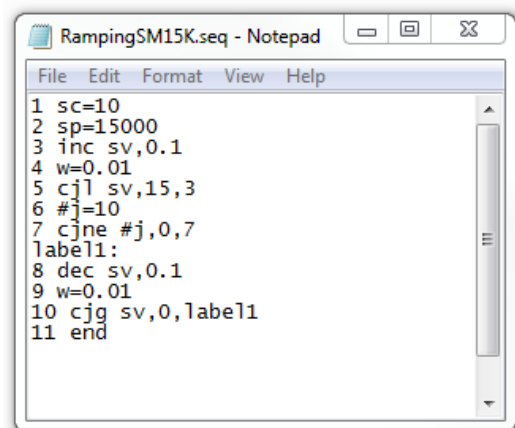
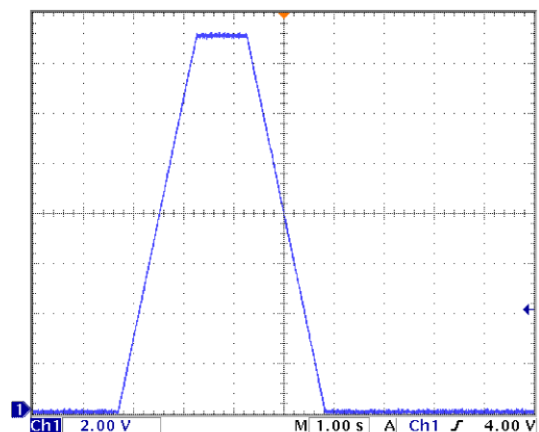

Figure 9.5: Example of a small sequence to ramp up the output to 15 V and then back to 0 V.
Figure 9.6: Output voltage as result of the above example.
- Create or edit the sequence in a plain-text editor, such as Notepad, and save the file with the .seq extension. An example is shown in Figure 9.5 and Figure 9.6.